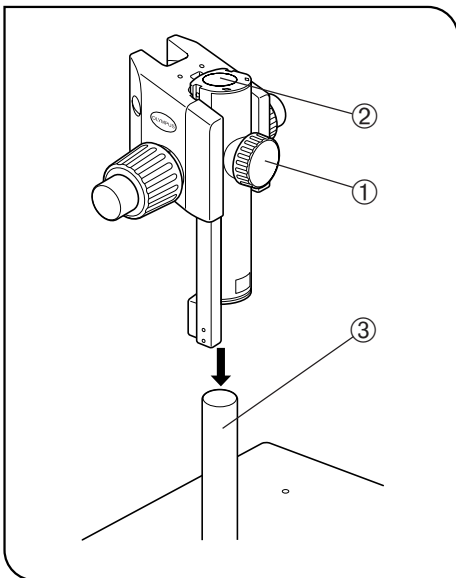

Fig. 5
### 2 Mounting the Focusing Assembly (Figs. 5, 6)
1. Fully loosen the focusing assembly clamping knob ①. While holding the focusing assembly with both hands, insert the pillar ③ into the mounting hole ②. (Fig. 5)
2. After inserting the focusing assembly until it reaches the stop position, secure it with the microscope body clamping knob ①. (Fig. 5)